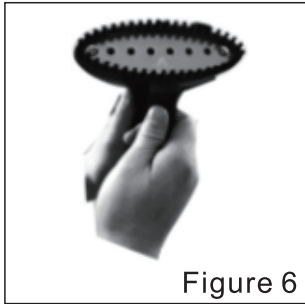

Figure 6
- ⑥ When ironing a fur product or brushing an ash layer, please install the hairbrush head (optional) on the vapor hose nozzle as shown in the figure, and then put the vapor hose nozzle on the hook. If ironing any other cloth, do not install the hairbrush (Figure 6).